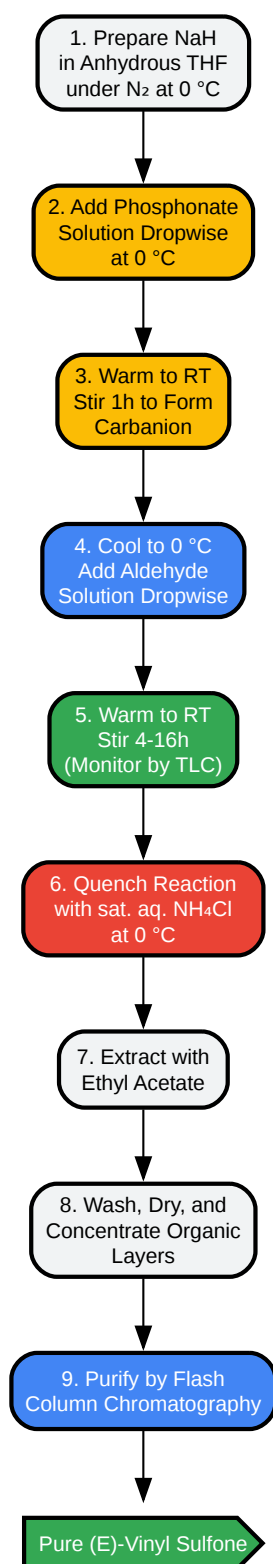

Figure 2: Experimental Workflow for (E)-Vinyl Sulfone Synthesis
Caption: Figure 2: Experimental Workflow for (E)-Vinyl Sulfone Synthesis.